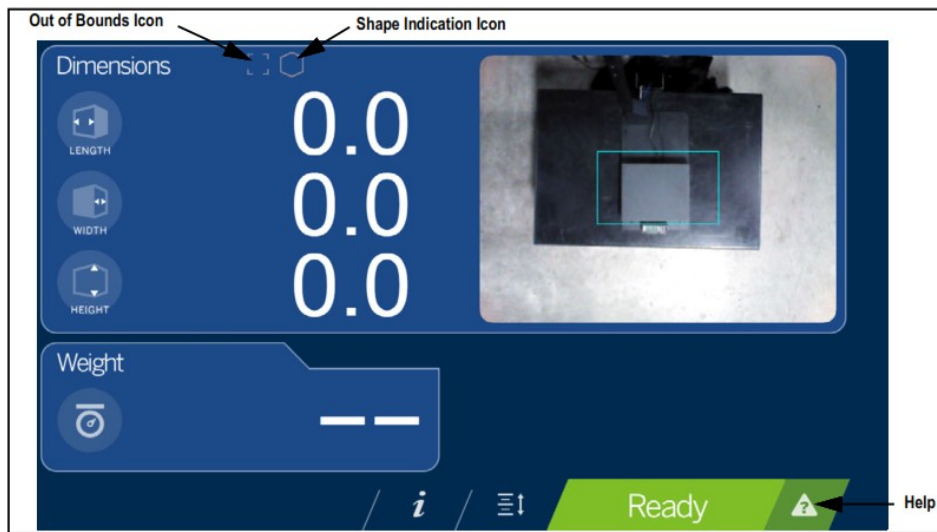

Figure 3-1. Touchscreen Display
A live image provides the user feedback on the placement of the item and conditions that may cause the system to be unable to dimension, for example out of bounds. The blue line shown in Figure 3-1, indicates the scan zone defined during initial setup.
The weigh area provides a real-time view of the scanning area from the scanning head onto the USB display. The blue box within Figure 3-1 is the Scan Zone which indicates the area the iDimension Plus will dimension.
5. Upon successful zero height calibration select . The display returns to the Touchscreen Display (Figure 3-1 on page 17).
1. Select the Device Information function key  located at the bottom of the screen (Figure 3-1 on page 17).